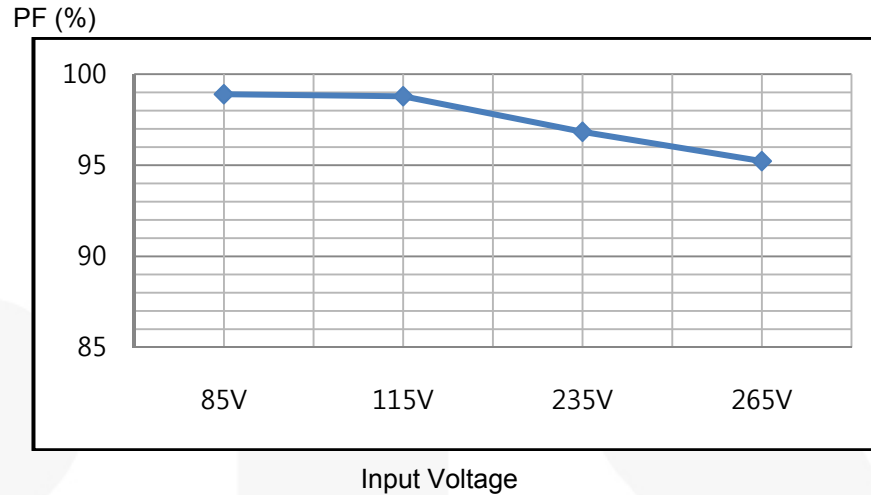

Figure 14. Power Factor Curve
8.2. Power Factor (PF)
Figure 14 shows at least 95% power factor (PF) with universal input condition at rated output LED load.